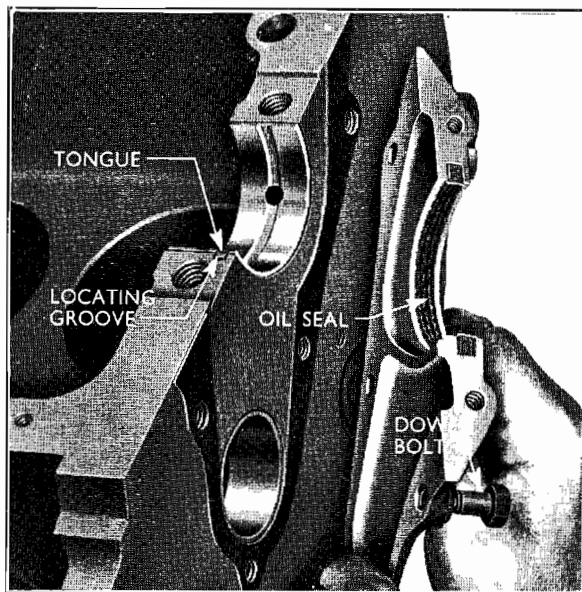

Fig. 13
**(c) Fit a new oil seal housing gasket** to the rear face of the cylinder block and secure the housing to the block with four spring washers and the correct bolts, see Fig. 13. Note that the two bolts adjacent to the sump flange are dowelled to ensure correct alignment and these must be tightened first.